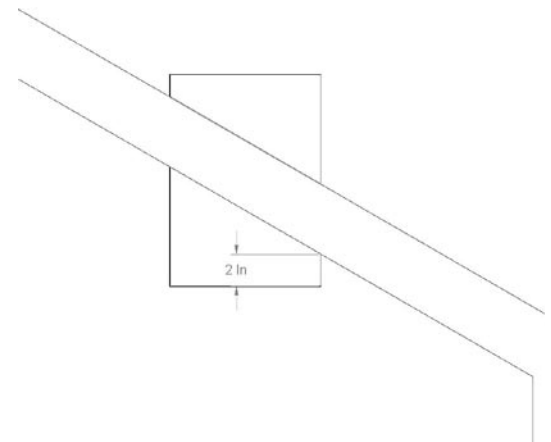

FIGURE 19
6. Run the Support Box through the roof, and place it so that the bottom of the Support Box protrudes at least 2 in (5 cm) below the finished ceiling. Align the Support Box vertically and horizontally with a level. Temporarily tack the Support Box in place through the inside walls and into the roof sheathing. See Figure 19.